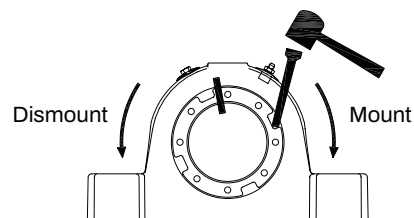

Figure 2
- Rotate lock nut counterclockwise until bearing freely slides from the shaft (Figure 2).